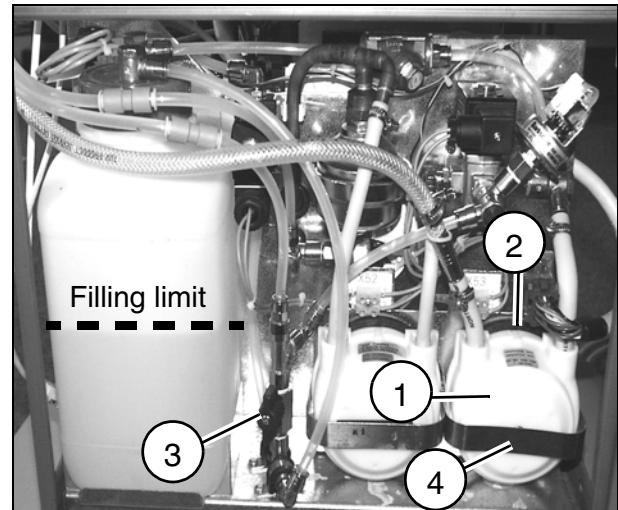

Fig. 4
- Fit the hose pump head onto the drive shaft (1/Fig. 4/5).
- Press the black lock (2/Fig. 4/5) upwards or downwards.
- Attach the bracket (4/Fig. 4/5).
- Make the hose connections (see Fig. 4/5).
- Open the 2/3-way valve Y8 (3/Fig. 4/ 5) i.e., adjust the Y8 lever from horizontal = locked to vertical = open.
- Close the 2/3-way valve Y8 (3/Fig. 4/ 5).